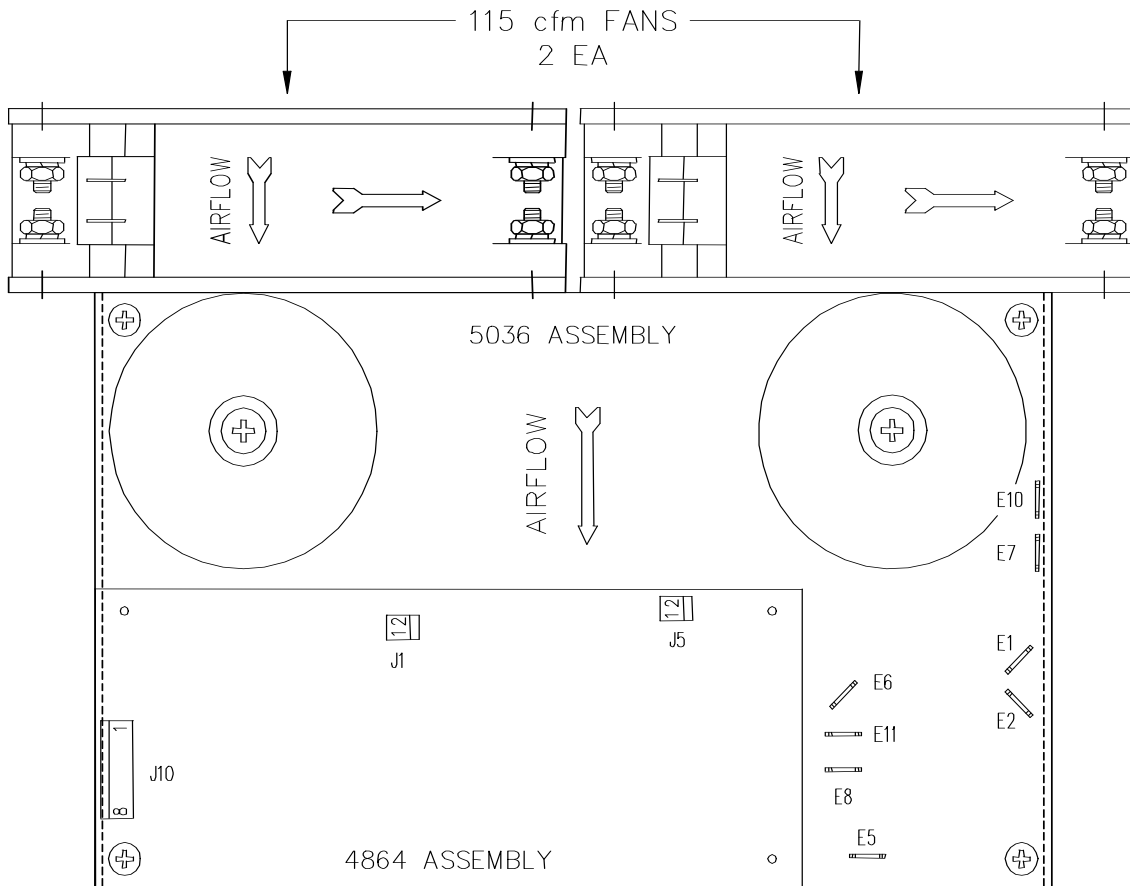

FIGURE 6
- c) Enclosure must provide forced-air cooling. Proper airflow must be maintained to prevent thermal shutdown. Two fans delivering 54.3 liters per second (115 cubic feet per minute) each are recommended in the position shown in Figure 6. A plenum that directs the airflow will help in extending the life of the product.